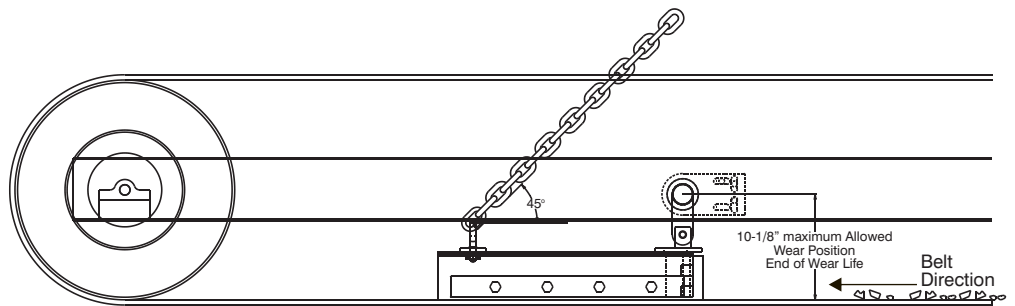

Fig 5 - Worn Rubber
Step 2b. In some instances a safety chain has been supplied and should be installed as shown in fig. 5 shown above. The length of the chain should be adjusted so that the front end of the plow cannot contact the surface of the belt which is roughly 1/4".